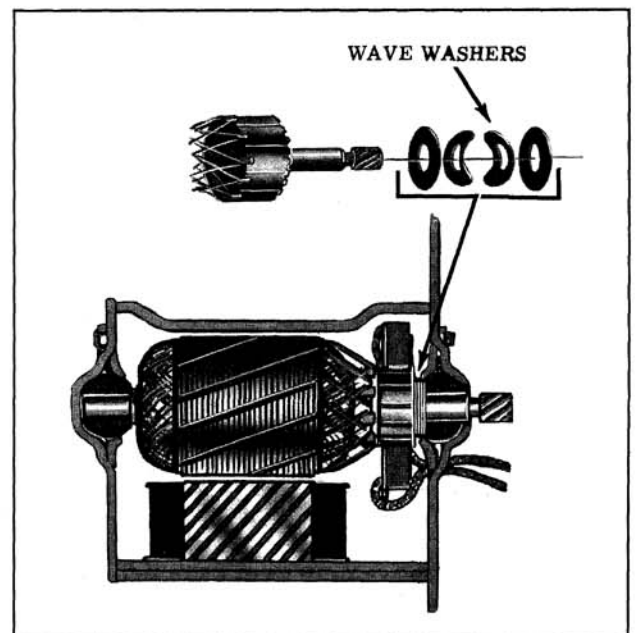

Fig. 13-169 Armature End Play Washers
7. Remove end play washers from commutator end of armature shaft. When reassembling armature in wiper, install washers as shown in Fig. 13-169.